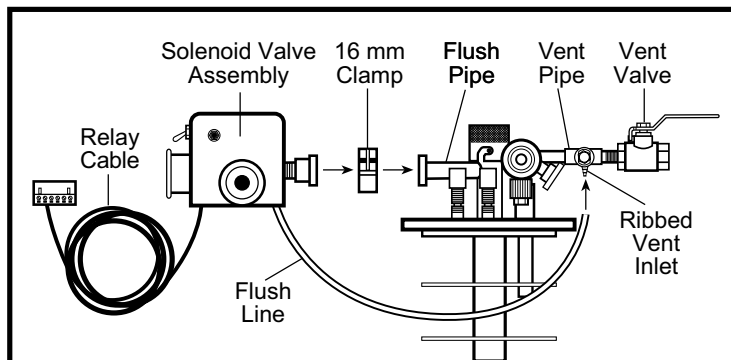
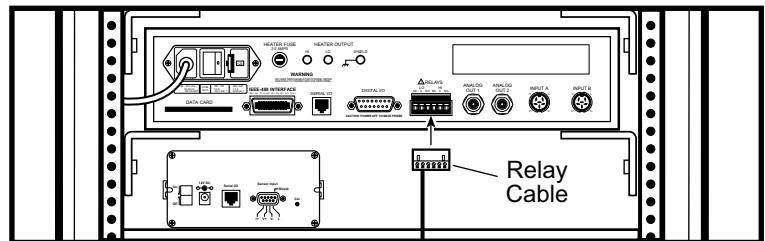

Figure 3-4 Attaching Solenoid Valve Assembly to Cryostat
Figure 3-6 Connecting Relay Cable to Model 340
4. Remove the cryostat from its shipping crate and carefully lay it on its side, or place it in a probe stand (recommended). Clamp the pump Solenoid Valve Assembly to the cryostat Flush Pipe with a 16 mm clamp. (Figure 3-4).
5. Push the end of the Solenoid Valve Assembly Flush Line onto the ribbed inlet of the Vent Pipe. Temporarily coil up the solenoid Relay Cable so it is out of the way. (Figure 3-4). **Optional:** To pre-cool the dewar, pour 5 liters of liquid nitrogen into it. Liquid nitrogen is considerably less expensive than liquid helium.
6. Open the cryostat Vent Valve (Figure 3-4). With two people, lift the cryostat by grasping the Flush Pipe and the Vent Pipe, and carefully slide it into the dewar. If pre-cooling, the liquid nitrogen will boil vigorously upon cryostat insertion.
9. Plug Relay Cable (Figure 3-4) into the Model 340 Relay port (Figure 3-6).